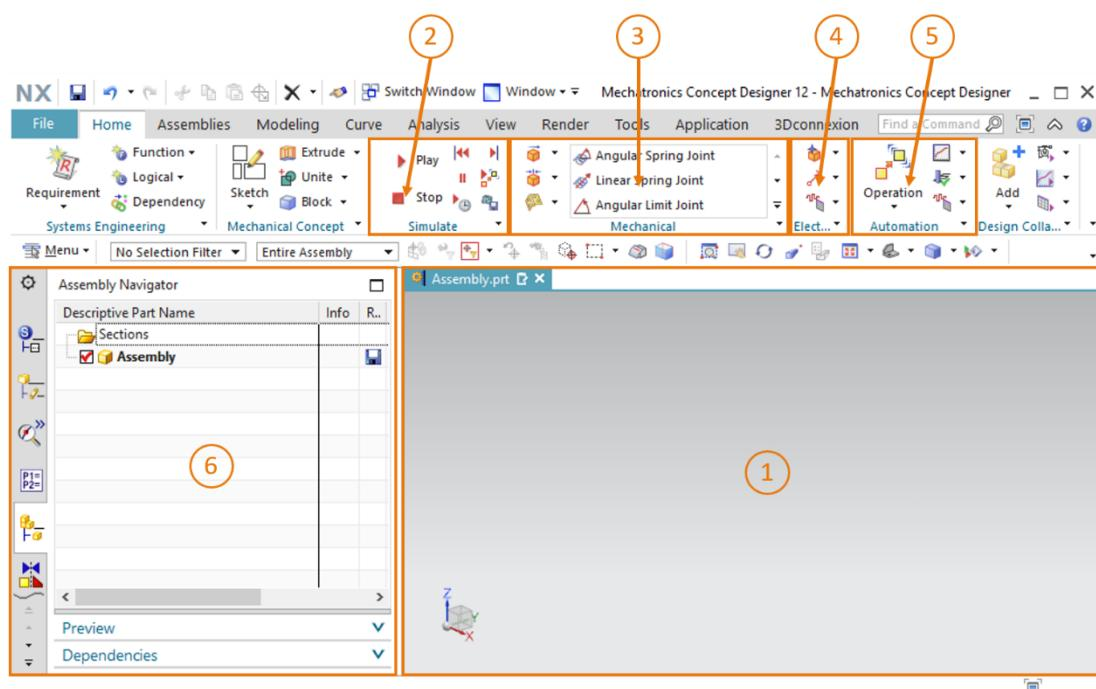

Figure 2: "Mechatronics Concept Designer" application in NX with markings for explaining the areas in the text
The workspace of Mechatronics Concept Designer is shown in Figure 2. To open this application, you can use the familiar Command Finder at the top right of the screen to search for the "Mechatronics Concept Designer" application.
- The central screen again contains the three-dimension graphics window (see Figure 2, area 1). Here, for example, model surfaces can be selected for assigning dynamic properties.
- You can control the simulation of your model in the application from a group located in the middle of the menu bar (see Figure 2, area 2).
- Another group in the middle of the menu bar (see Figure 2, area 3) lists all the dynamic properties of Mechatronics Concept Designer from the field of mechanics. These include rigid and collision bodies, which are explained in more detail in Chapter 4.2.1.
- You will find the dynamic properties from the field of electrics in the menu group next to the dynamic mechanical properties (see Figure 2, area 4). Sensors and controls are mainly listed here. The dynamic electrical properties that are relevant for this module are described in Chapter 4.2.2.
- The menu bar also has a group for the dynamic properties from the field of automation (see Figure 2, area 5). These properties include motion profiles as well as signal assignments for control by external programs such as PLCSIM Advanced. These functionalities are not used in this module.
- From the Resource bar on the left part of the screen (see Figure 2, area 6), you can open the Physics Navigator tab, among others, where all physical properties of an assembly or a model can be displayed. In addition, the Runtime Inspector allows you to change values of the physical properties during an active simulation. The Runtime Inspector is explained in Chapter 4.3.